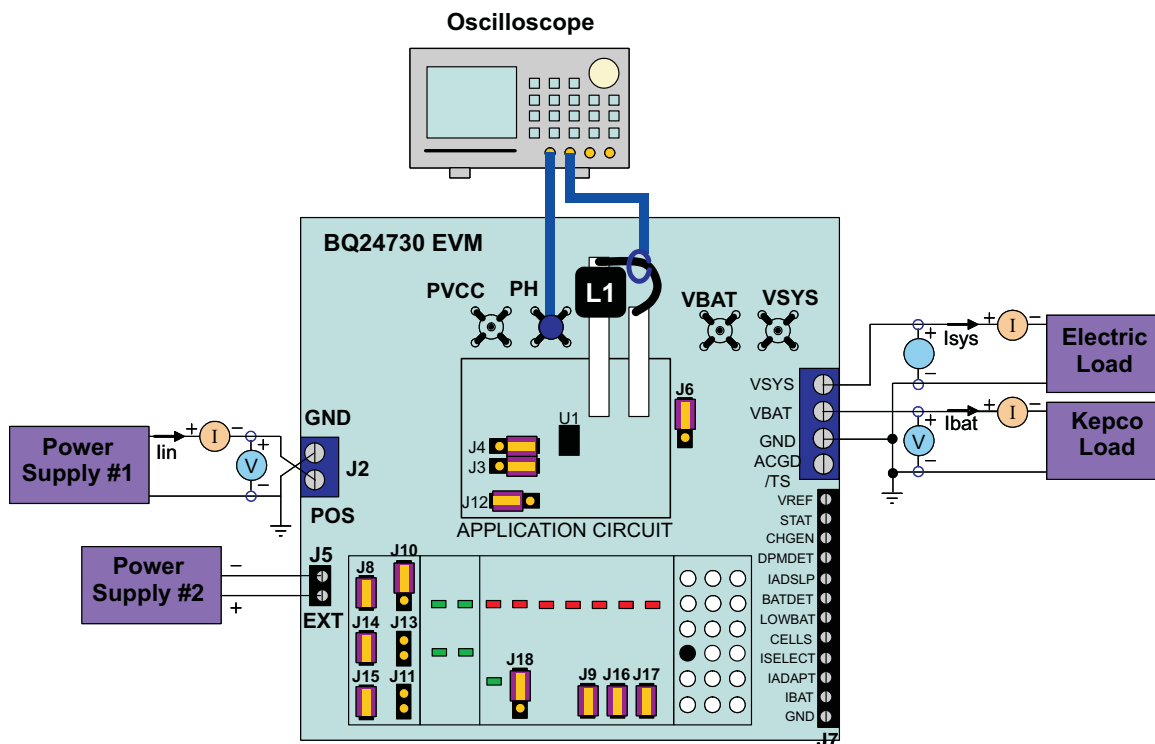

Figure 9. Test Setup for bq24730EVM
- b. The setup is now like that shown in Figure 9.